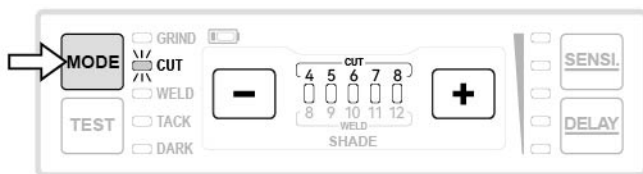

fig.4
**Cut Mode - Shade 4 ~ 8 (See fig.4)**